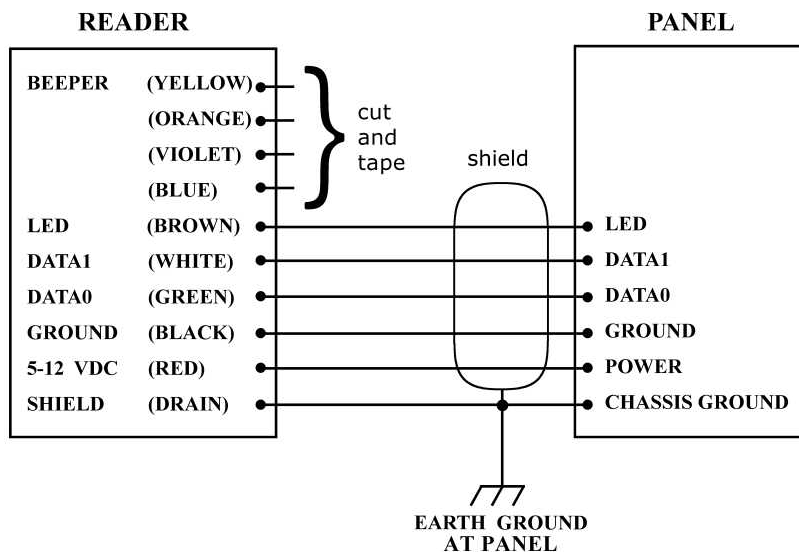

FIGURE 2: WIRING DIAGRAM (WIEGAND)
3. Connect the reader's cable to the access control panel as shown in Figure 2. Connect the yellow wire only if used for Beeper control by the panel. Do not connect the orange, blue and violet wires to anything. Tape or cap the unused wires singly.